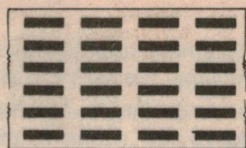

Fig. 5
2. Increase the thickness of the coating—increase amount of magnetic material (Fig. 5).